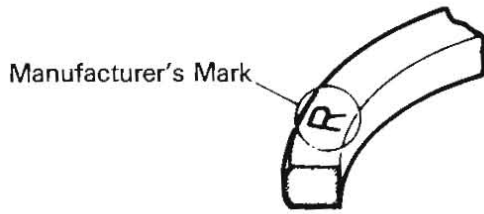

Fig. 4-8 Manufacturer's Ring Mark
- Install piston rings on piston with align "mark" facing top of piston (Fig. 4-8). Alternate ring end gaps 120° to be sure no ring end gaps are in line